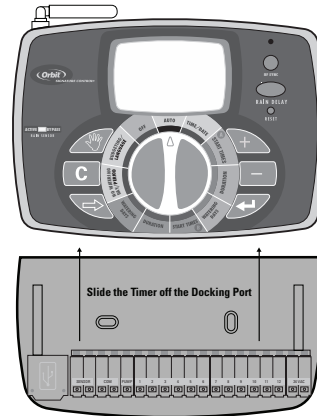

Figure 3: Mounting the Docking Port
- Slide the timer off the docking port. (See Figure 3)